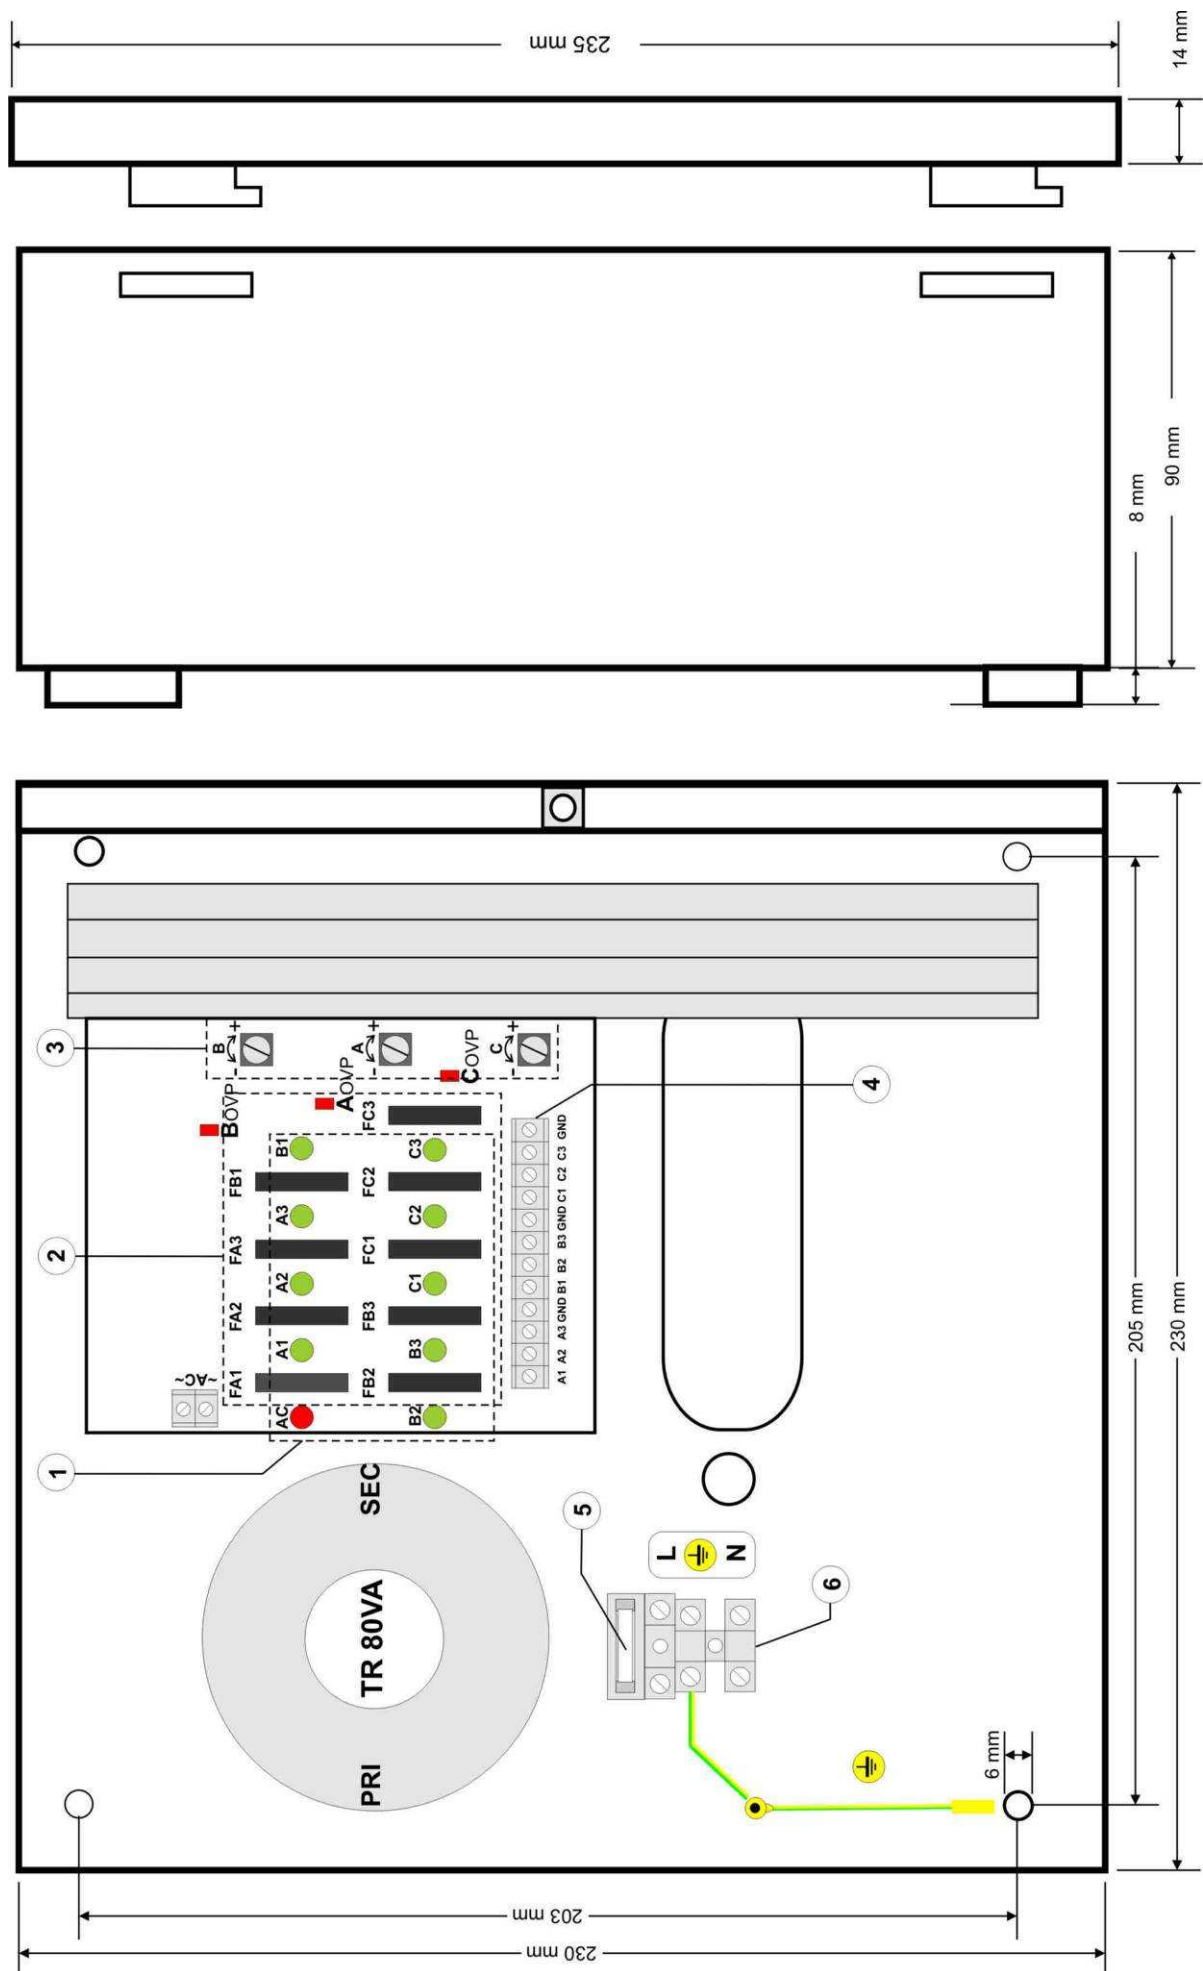

Fig.2. The view of the power-supply unit.
**1.3. Description of elements and power supply connectors (tab.1, tab.2, fig.2).**
Element no [Fig. 2]	Description